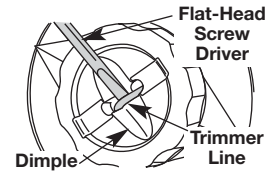

Fig. 32
2. Using a flat-head screwdriver, insert the tip into the line dimple and just under the exposed portion of the line (Fig. 32).